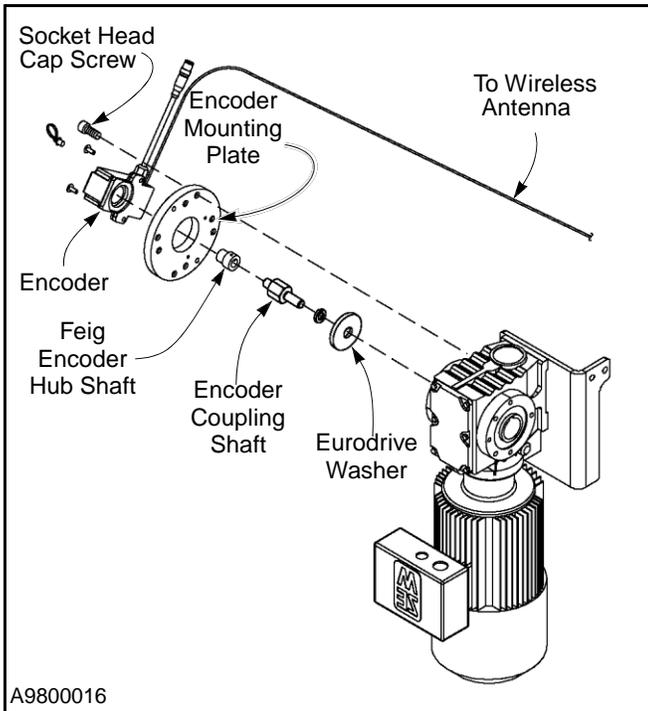

Figure 18
- Install a plastic zip tie into the socket head screw and secure the encoder cable. (See Figure 18)